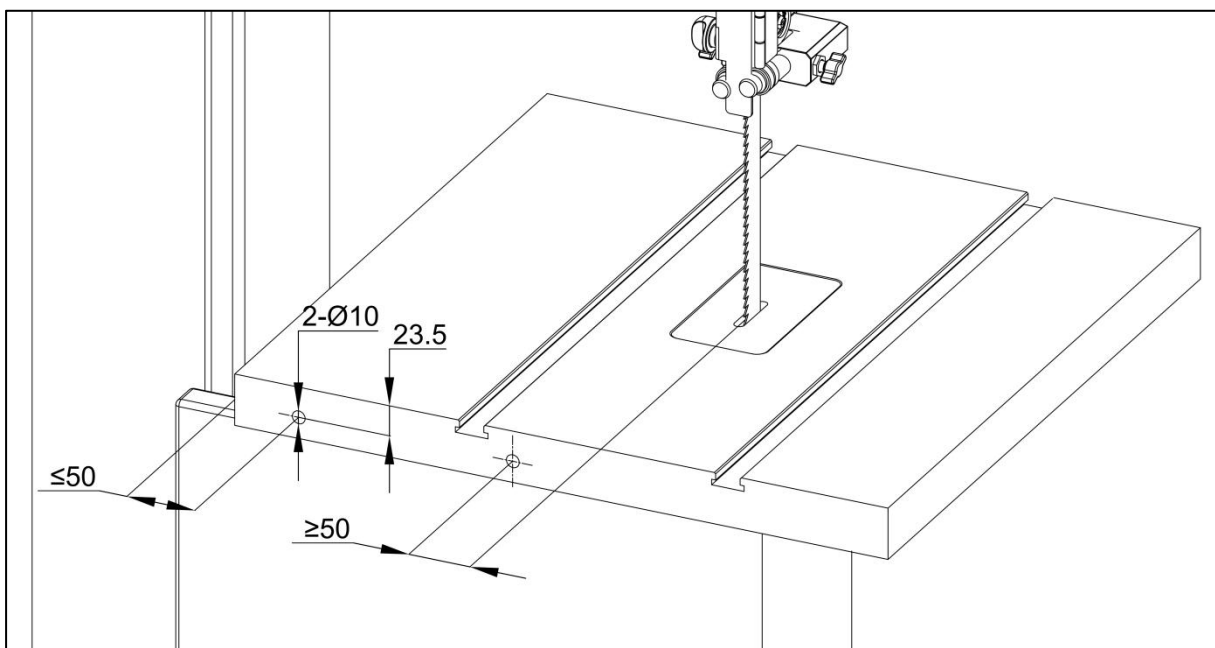
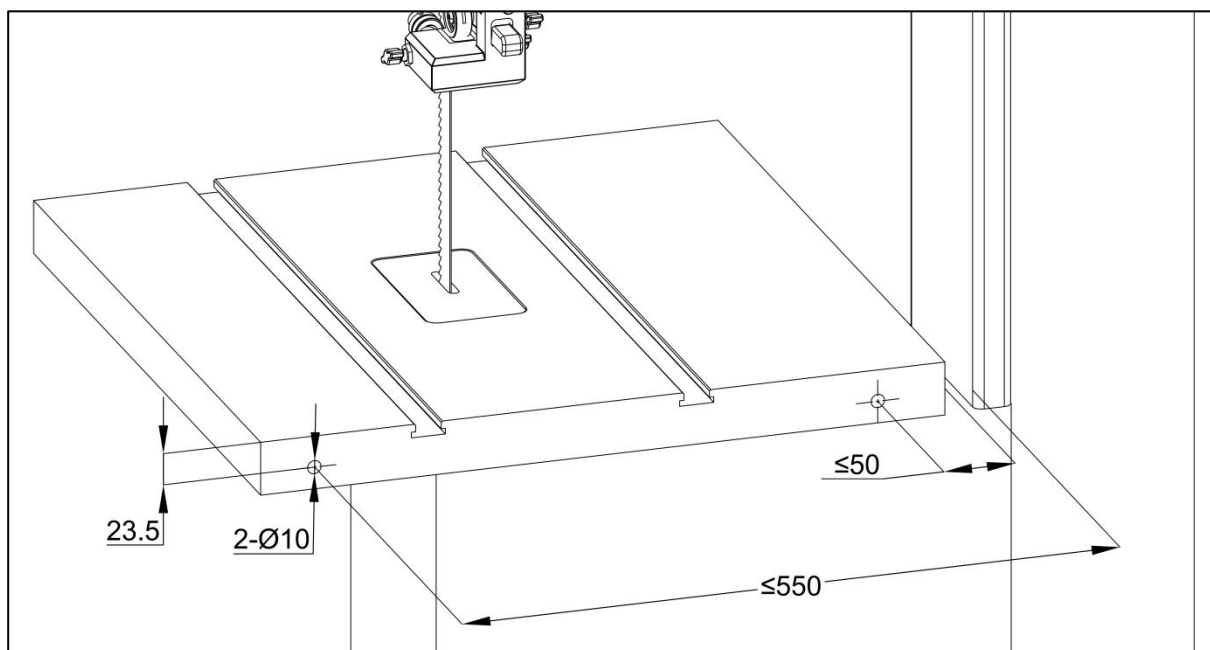

Fig. 4
Fig. 5
- ◆ C14 Series: Drill new mounting holes on the rear face of the table according to Fig. 5.
- ◆ Drill mounting holes on the front face of the table according to Fig. 4, and on the rear face according to Fig. 5.